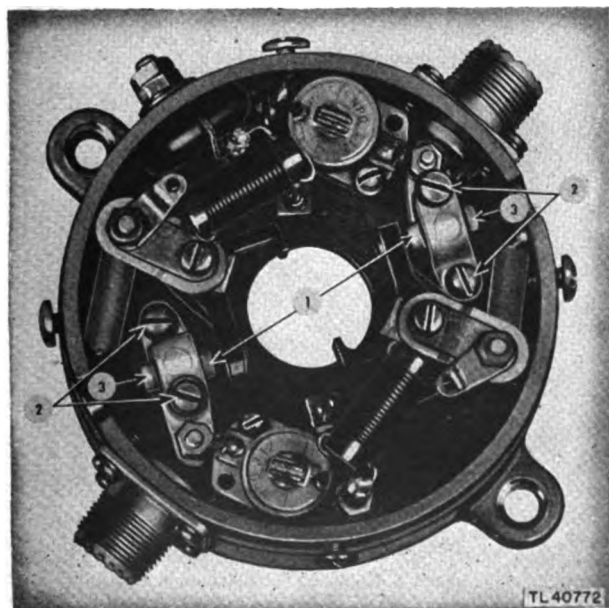
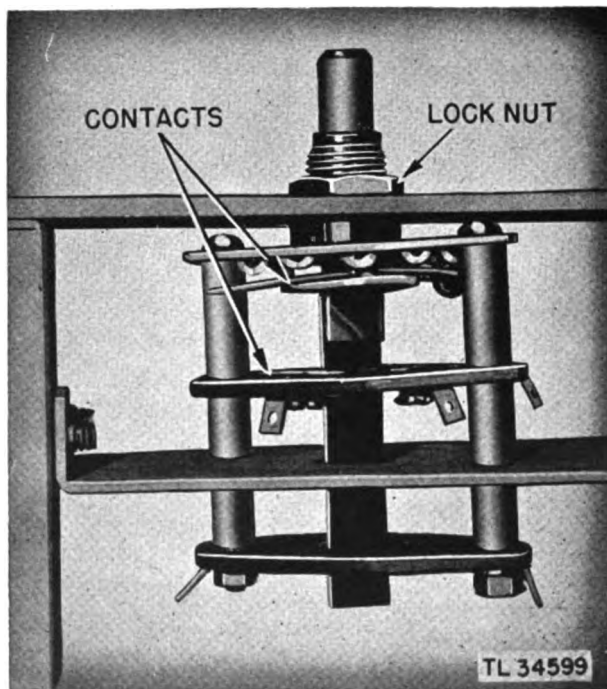

Figure 13. Lobe switch contacts.
Figure 14. Gang switch.
Many types of switches, such as toggle switches, circuit breakers, interlock switches, and gang switches are used. Some of these require preventive maintenance. The lobe switch in particular requires periodic attention. Figure 13 shows the contacts ① which should be cleaned at least once every 2 weeks. To clean a pitted contact, simply rub the crocus-cloth stick over the contact. Follow up with the canvas stick. The contacts may be cleaned (if not pitted badly) without removing them from the switch assembly. After cleaning, the contacts should be spaced about 0.011 inch apart. To adjust the contact gaps, rotate the cam until the spacing of the contacts is at a maximum. Loosen screws ② with a small screw driver and adjust the spacing by turning the contact adjusting screw ③ in or out until the inserted feeler gauge shows (snug fit) 0.011 inch. Repeat the process on the other contacts. When the job is finished, replace the cover on the housing and be sure it is watertight. A gang switch is shown in figure 14.